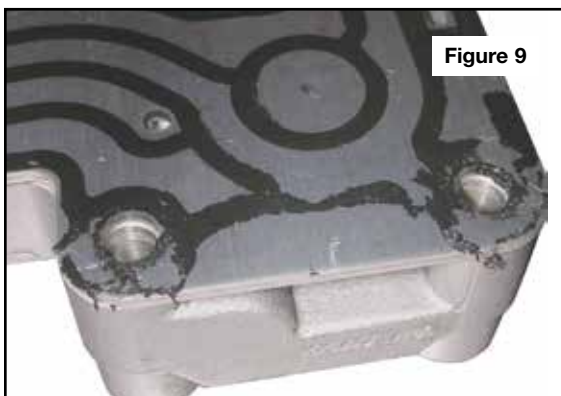

Figure 9
**NOTES:** The separator plate has a bonded gasket which may delaminate during disassembly (**Figure 9**). If any damage or delamination to the gasket is present, a new Sonnax separator plate should be used.